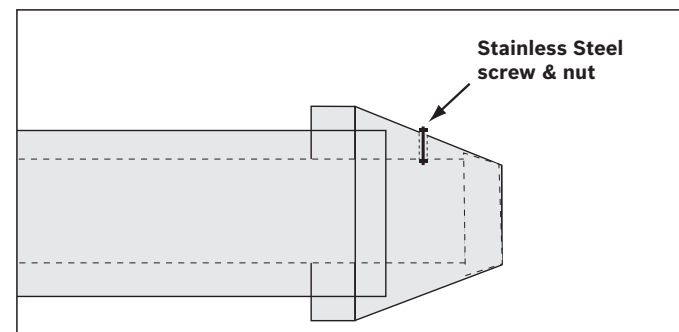

Fig. 6 Fastening rain cap with screw and nut
3. Insert the screw and tighten the bolt, do not over tighten (See Fig. 6).